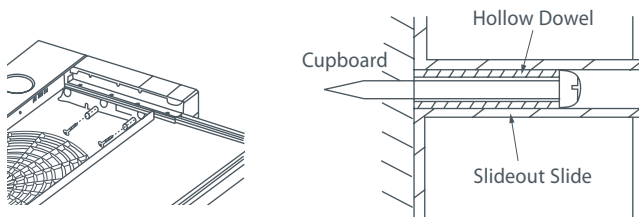

Fig.8 Side mounting
- 2 Position slideout (ensuring unit is level) and fix in place using screws and hollow dowels through each side fixing hole (see Fig.8). (Check screw length with thickness of cabinet panels).